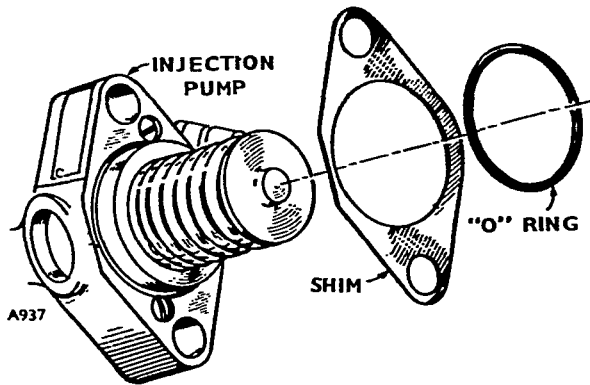

FIGURE 24. SHIMMING THE PILOT
1. Slide the shim or shims (using proper thickness of shims for correct timing) over the pilot until they are flat on the pump flange. See Figure 24.